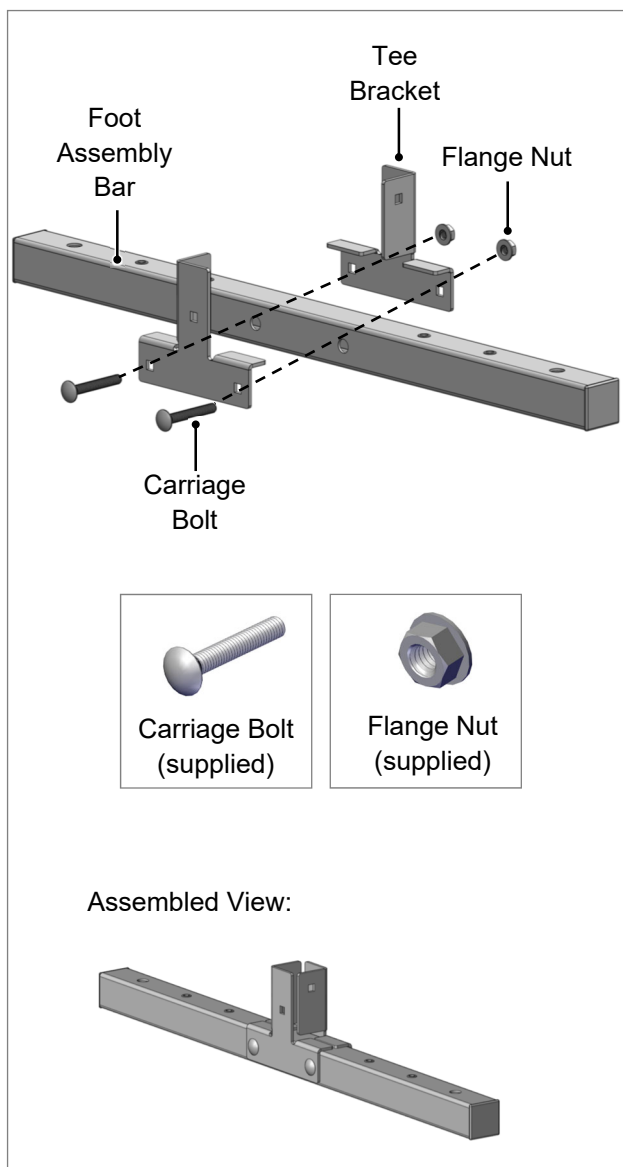

Fig 3. Foot Assembly
- Attach one (1) Tee Bracket to each side of the foot assembly bar and secure with two (2) Carriage Bolts and (2) Flange Nuts (Fig 3).